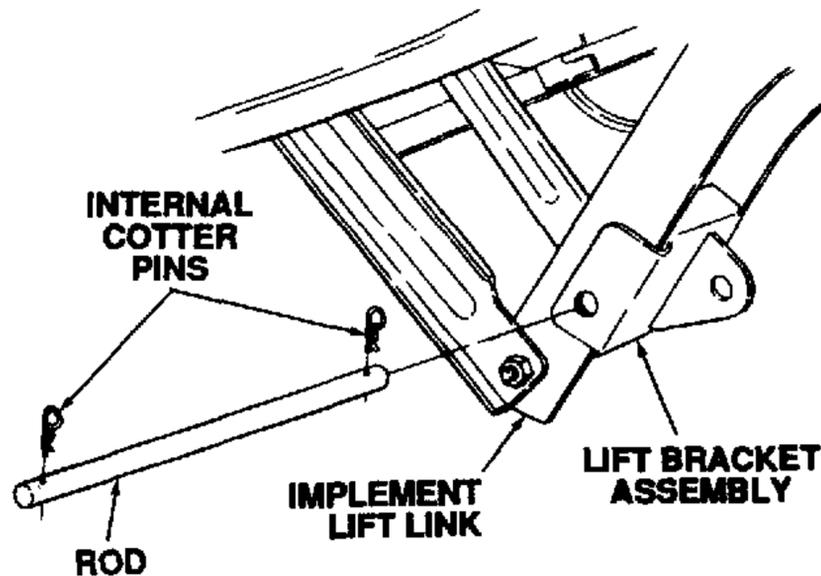

Figure 7-11. Installing the Lift Bracket.
When installing the lift bracket (5, Fig. 7-9), the tractor lift links must be positioned **within** the slots at each side of the lift bracket, with the center lift rod tab of the bracket positioned as shown in Figure 7-11.
4. Install the lift bracket (5) onto the tractor lift links, align the holes, and insert the rod (10) through the lift bracket and lift links. Install an internal cotter pin (13) in the other end of the rod (see Fig. 7-11).